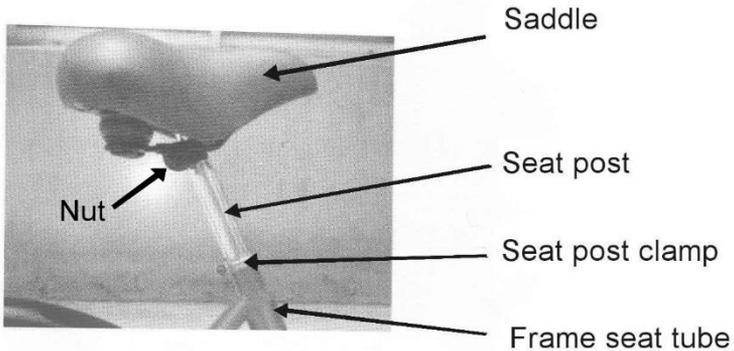

Figure 8.
Saddle and Pedal Assembly (Figure 8.)
1. Insert seat post into the seat and lock it with nut as shown in figure 8.